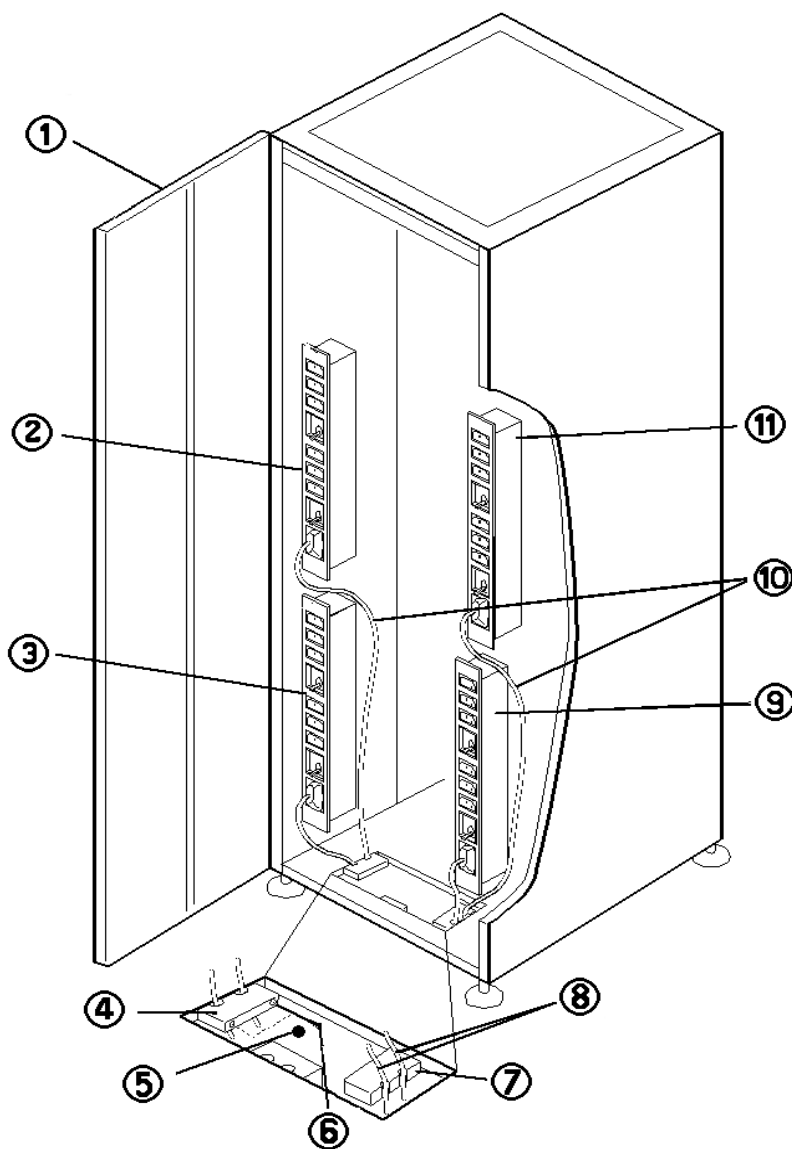

Figure 5-42: Connecting Power Cables (Rack PDB)
7. Recheck the power cable plug to make sure it is still secure in the PDB and that it has not become loosened during the cable routing process. See Figure 5-42.